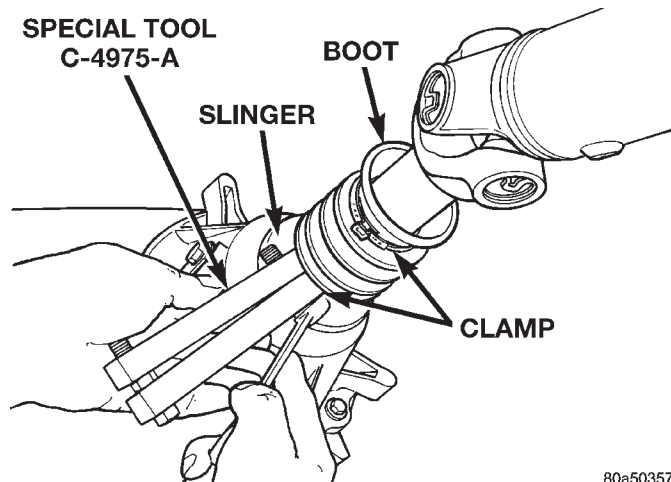

Fig. 79 Slinger Boot Installation
(8) Install boot on output shaft slinger and crimp retaining clamp with tool C-4975-A (Fig. 79).